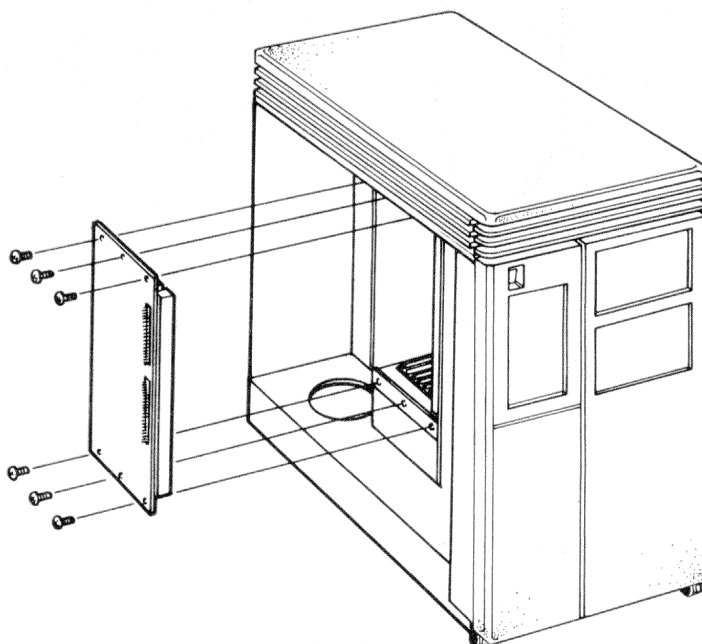

Figure 6-19 Backplane Removal
5. Lift the metal plate and the backplane out of the back of the card cage. (Figure 6-19)